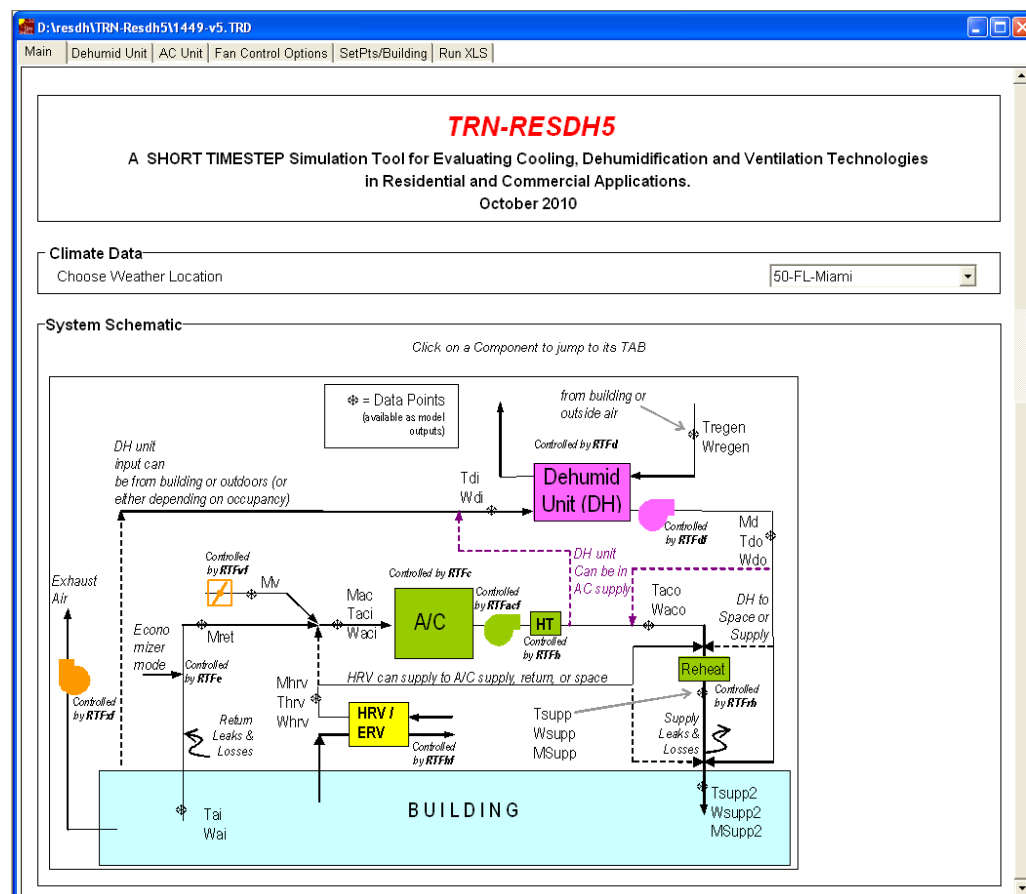

Figure 2. Top of the Main Input Menu for TRN-RESDH Model
The TRNSED user interface to the model is shown in Figure 2. The user can configure the various sections of the program by clicking the various tabs. One can also navigate to the tabs by clicking on the appropriate equipment in the layout diagram on the main tab. The user selects the desired settings by operating the pull-down menus and by entering data in the text boxes. The types of inputs are grouped according to topic: “Dehumid/Vent Unit”, “AC Unit”, “Fan Control Options” and “SetPts/Building”. Since the tool is aimed at HVAC-related issues, most of the inputs are focused on that topic with less emphasis on the building details. However, the TRNSYS-based model supports single-zone or two-zone detailed building simulations based on TRNSYS Type 56 module. The TRNBuild.EXE application can be used to change the building details.
2. Select the building type (or *.TRD file) you would like to use. The TRD file includes commands that will be used by TRNSYS during the calculations phase as well as instructions to build the menus for the TRNSED user interface. The screen interface shown in Figure 2 appears.